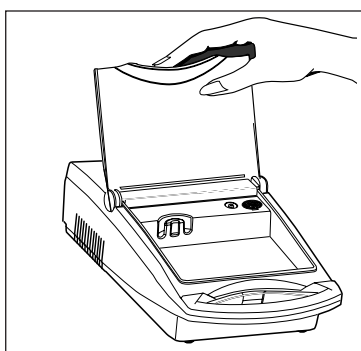

Figure 1/Figura 1
- Open door to storage compartment **Figure 1**.